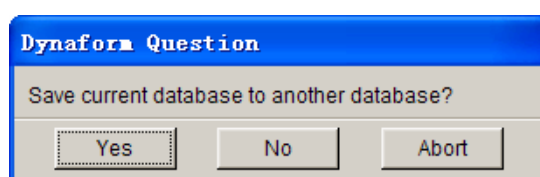

Figure 3.3.1 Dynaform Question message window
- When a database file is opened in eta/DYNAFORM, a warning message window as shown in Figure 3.3.1 prompts the user to save the active database file before creating a new one.
This function allows the user to restart the active database from the previously saved stage. eta/DYNAFORM prompts the user to save the active file prior to restarting the database. The message window is shown in Figure 3.3.1.